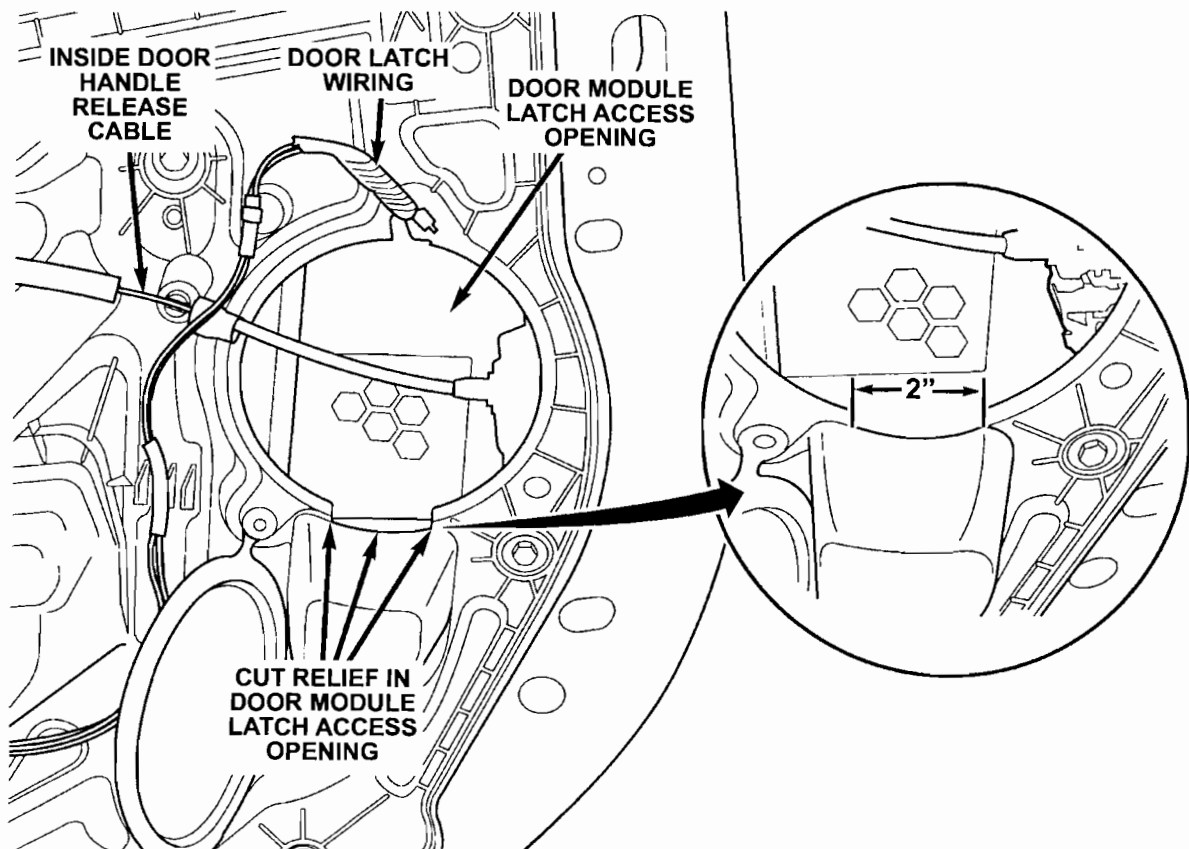

Figure 4
- A small relief must be cut into the door module latch access opening to allow the removal of the latch assembly. Using a cut-off wheel, remove a two inch wide section of the door module carrier plate down to the raised boss as shown in Figure 4.